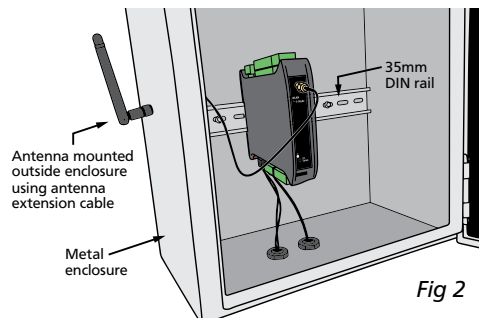

Fig 2
#### B - Metal Enclosure (Fig 2)
- A** Installing the unit in an earthed **Metal Enclosure** (as in Section 3.2, Fig 2). This is particularly useful if the control box is mounted close to large power switching devices like contactors. Every switching cycle there is a possibility of generating a large amount of near field radiated noise. The **Metal Enclosure**, acting as a faraday cage, will shunt this radiation to ground and away from the unit.